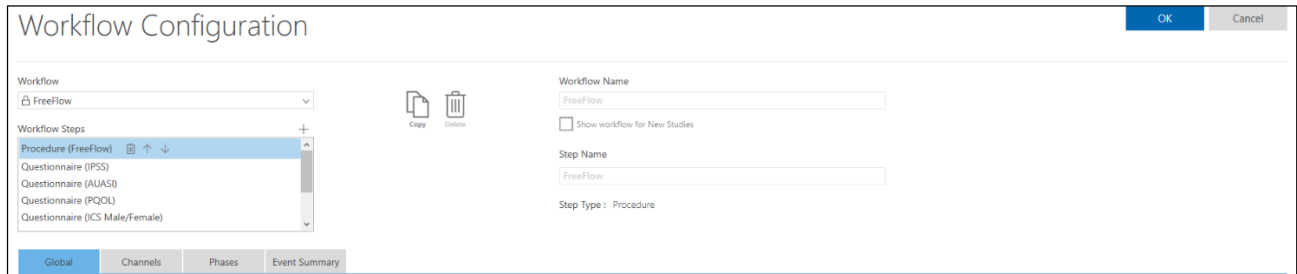

Figure 43: Workflow Configuration Window – Channels Tab
1. Click **Settings > Workflow > Editor** in the title bar to launch the **Workflow Configuration** window (Figure 43).